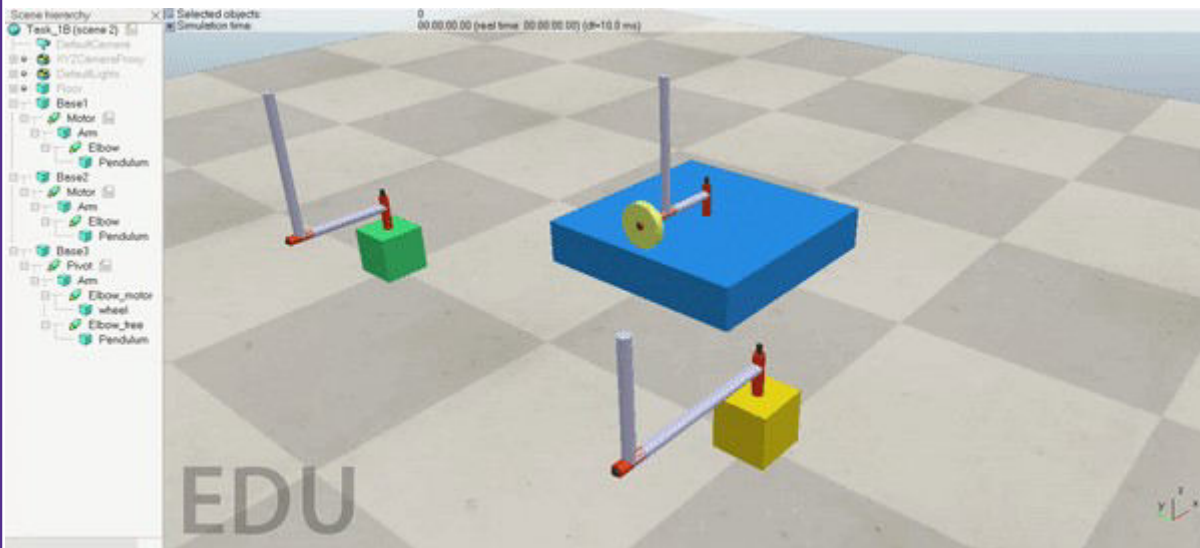

Figure 1: Rotary Pendulums Task Problem Statement
- As you open the scene file i.e. Task_1B.ttt in CoppeliaSim software as shown in Figure 1.